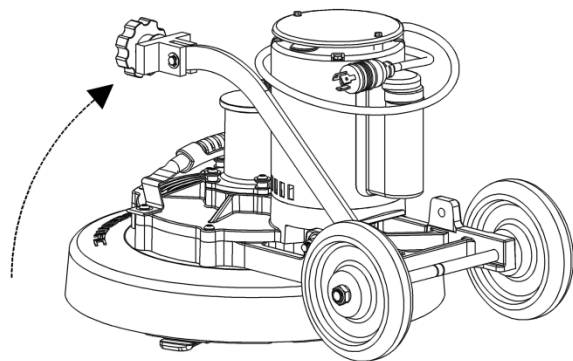

Figure 1.
1. Lift the handle brace and rotate it to the back side of the unit (Figure 1.). You will need to flex the handle brace slightly around the motor housing.